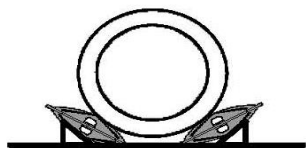

Figure 2-6. Correct Method of Inflating Stacked Lift Bags
h. When lifting large cylindrical objects (Figure 2-6), use a lift bag on both sides of cylinder and wedges to provide an even lift.